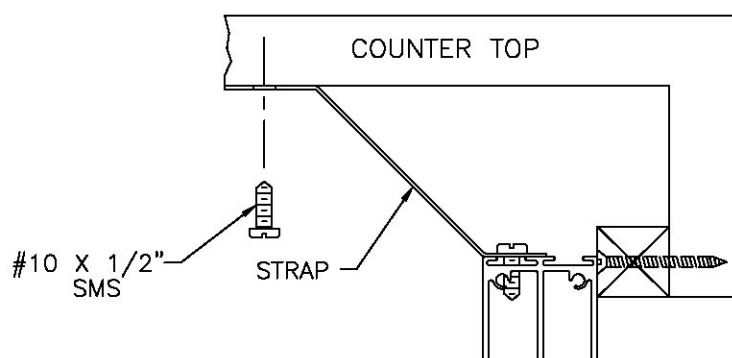

FIGURE 9C
- A. Bend Doorkit Straps as shown. See FIGURE 9C